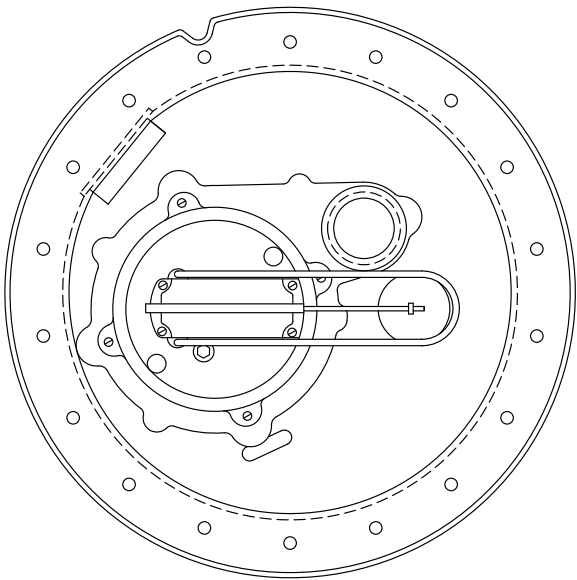
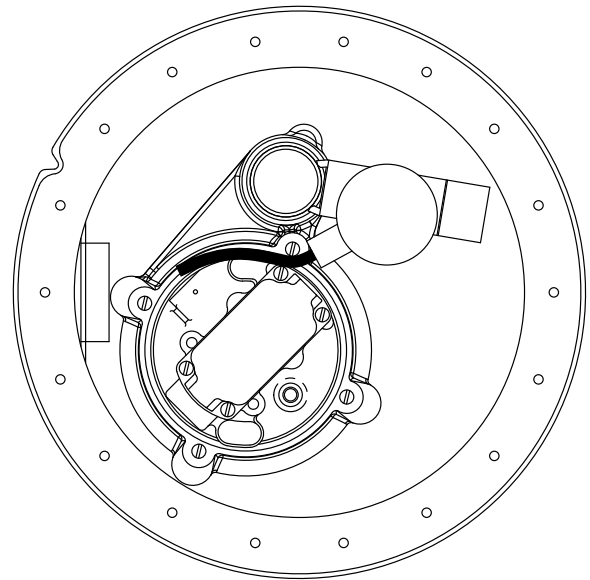

Figure 5.1
Figure 5.2
- 5.2 Place model 105 drain pump into basin per Figure 5.1. Place Model 135 drain pump into basin per Figure 5.2. Ensure the float switch is positioned for up and down movement without interference from the power cord or the tank wall.